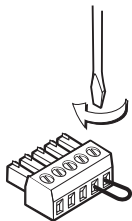

Figure 2-13 — Captive screw plug with a jumper wire connecting pins 4 and 5 together
1. Cut a small piece of wire to use as a jumper, and insert the ends of the wire into pin holes 4 and 5 of the provided 5-pin captive screw plug, connecting pins 4 and 5 together as shown in figure 2-13, below. Use an Extron Tweeker or other small screwdriver to tighten the plug's pin 4 and 5 screws, so that the wire ends remain securely in place.